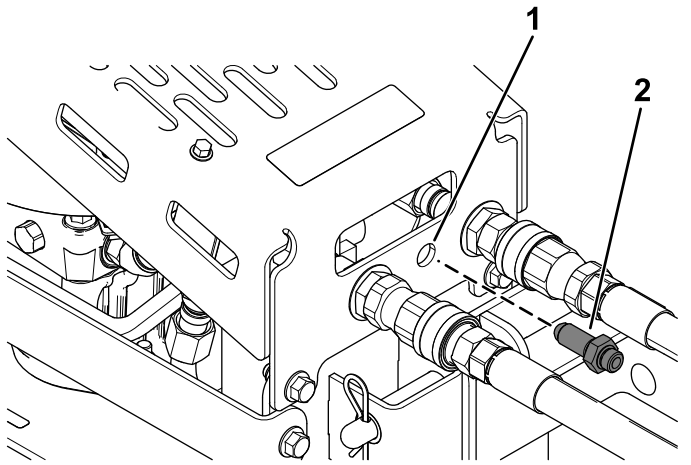

Figure 1
1. Remove the jam nut from the bulkhead fitting and insert the bulkhead fitting into the opening in the cooler cover (Figure 1).